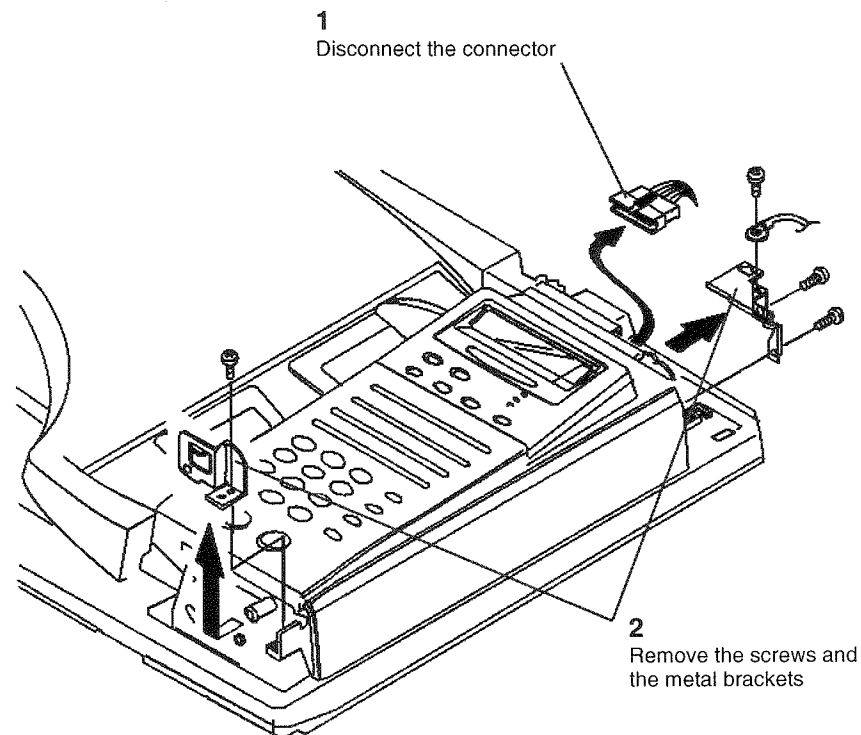

Figure 2 Preparing to remove the SDF Assembly
2. (Figure 2 ) Prepare to remove the SDF Feed Assembly.